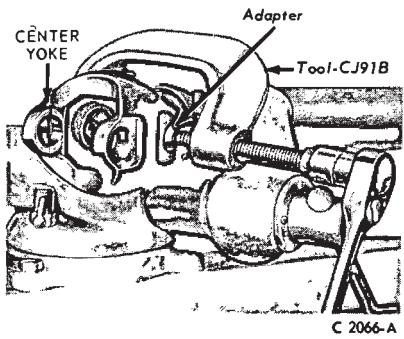
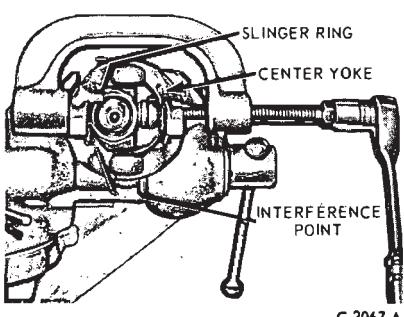

FIG. 8—Removing Bearing from Rear of Center Yoke
FIG. 9—Center Yoke Interference Point
12. Position the tool on the drive shaft yoke (Fig. 8) and press the bearing outward until the inside of the center yoke almost contacts the slinger ring at the front of the driveshaft yoke. Pressing beyond this point can distort the slinger ring. The arrow in Fig. 9 illustrates the interference point.